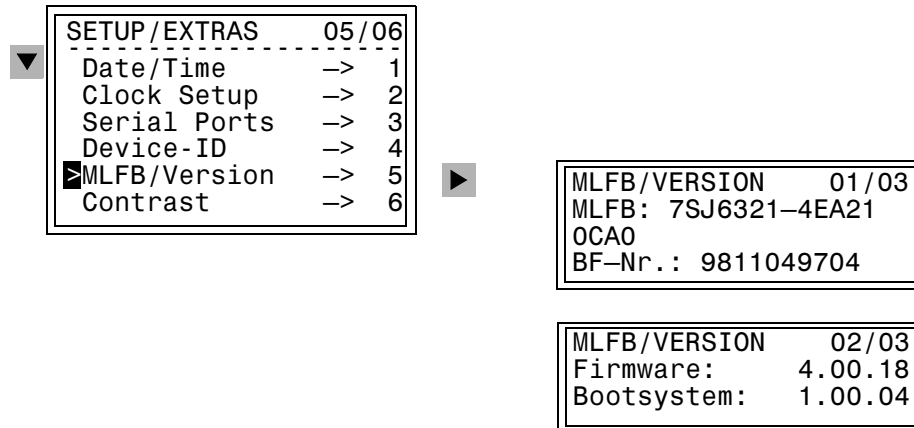

Figure 3-2 Display of Device-specific Data - Examples
- Using the ▼ key, select the menu item **Setup/Extras** and switch to the selection **SETUP/EXTRAS** using the ▶ key. See Figure 3-2.